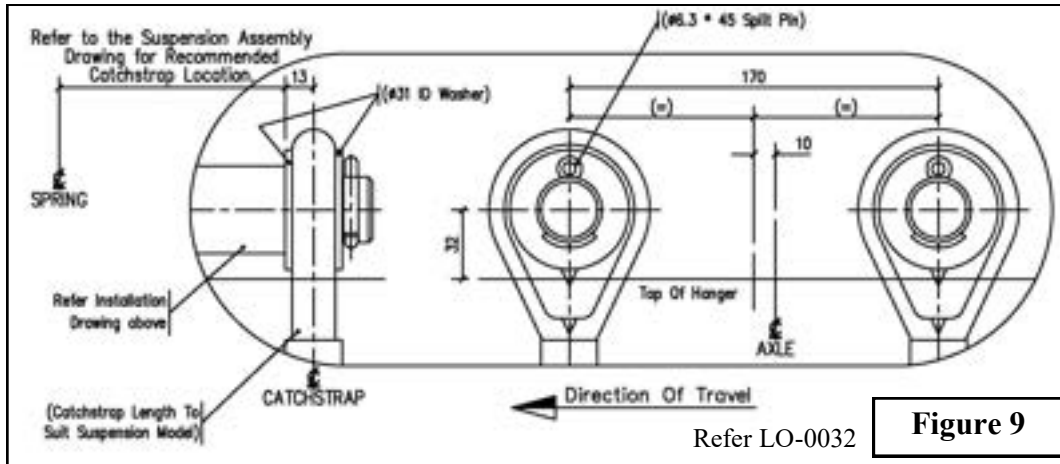

Figure 9
- Fit the Airbag as per **Figure 9**, and tighten fasteners to the required torque – M16 airbag lower screws to **230 Nm (170 ft/lbs)** and the M12 airbag upper mounting nuts to **66 Nm (49 ft/lbs)**.
Refer Figure 9